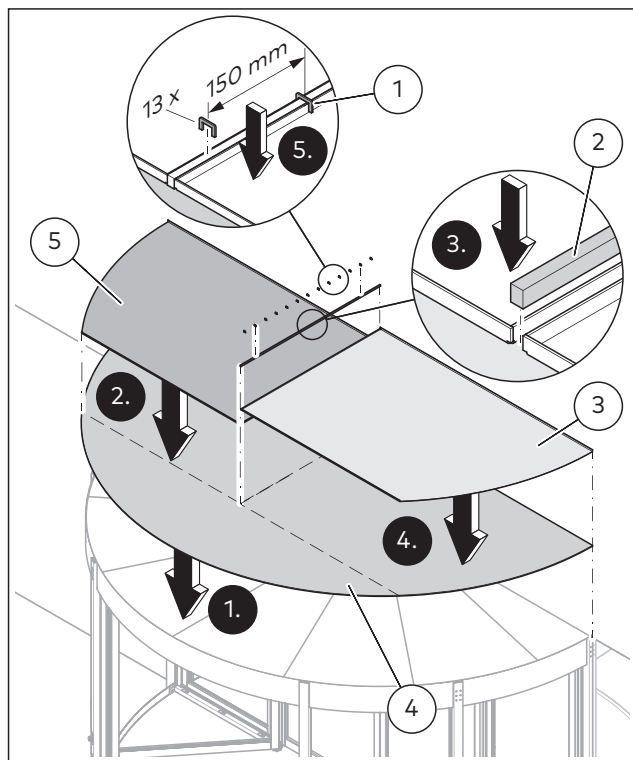

Fig. 126 Mounting the wooden ceiling and the first 2 rainproof cladding parts
1. Mount the wooden ceiling (Fig. 126/4) on the prepared outside ceiling.
2. Apply glue to the wooden ceiling beneath the first cladding part (Fig. 126/5). Position the cover onto the glue and into its final spot.
3. Apply joint sealing tape (Fig. 126/2) next to the cover.
4. Apply glue to the wooden ceiling beneath the second cover part (Fig. 126/3). Position the cover onto the glue and in its final spot. Compress the joint sealing tape between the two covers.
5. Connect the covers with clamps (Fig. 126/1) as shown every 150 mm.